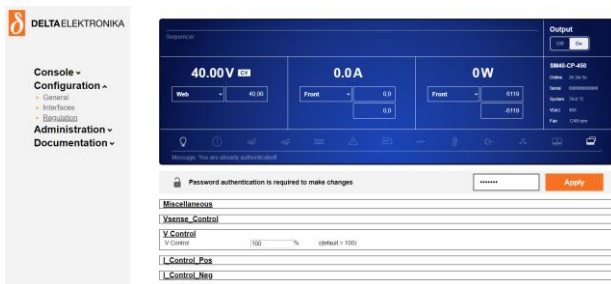

Figure 7.10: Reducing CV-control speed
- Use the Web-interface to adjust the CV-control speed, go to 'Configuration', 'Regulation', reduce the setting from 100% to a lower value and apply settings, see Figure 7.10.